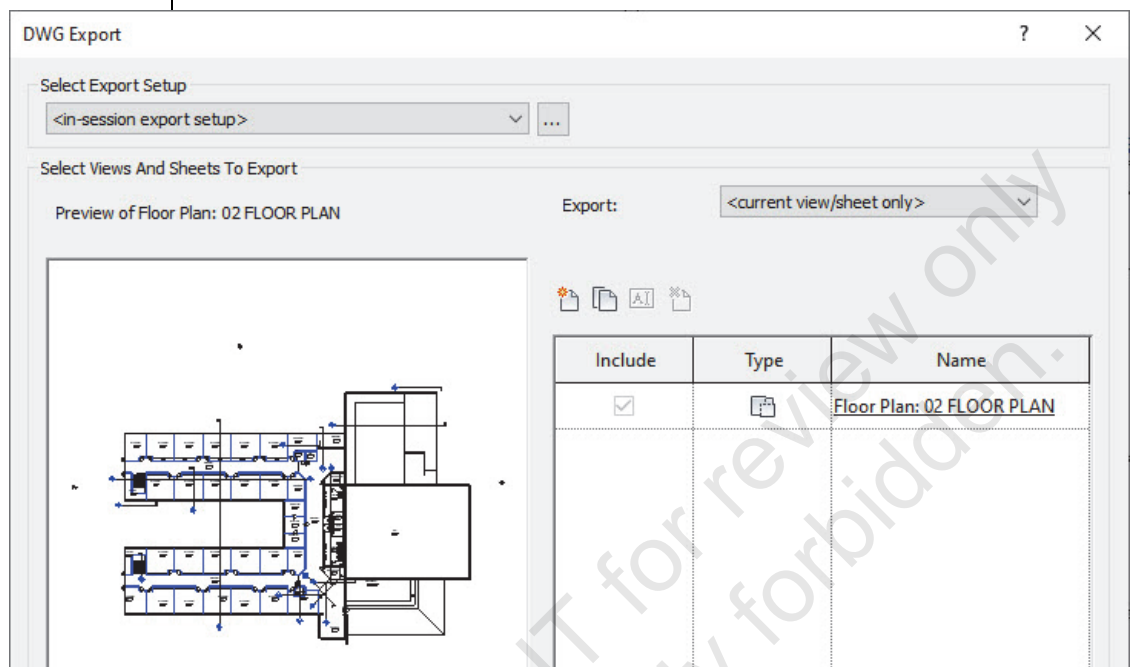

Figure 1–78
4. If you have an existing export setup, you can select it from the drop-down list (as shown in Figure 1–79) or click